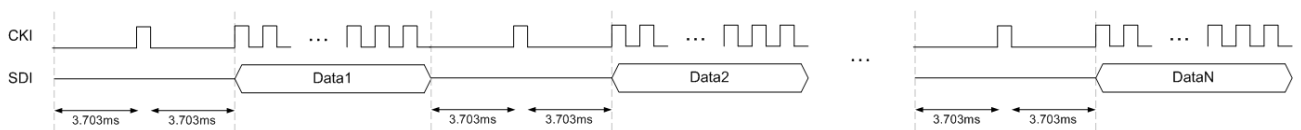

Figure 25. The Diagram of Prefix is 3.703ms
From equation (3), $T_{d0} = [16.67\text{ms} - 1\text{us} \times (48 + 36 \times 256)]/2 = 3.703\text{ms}$. The time is larger than the time of $64 \times 1\text{us} = 64\text{us}$. The data stream can be recognized, as shown in Figure 25.